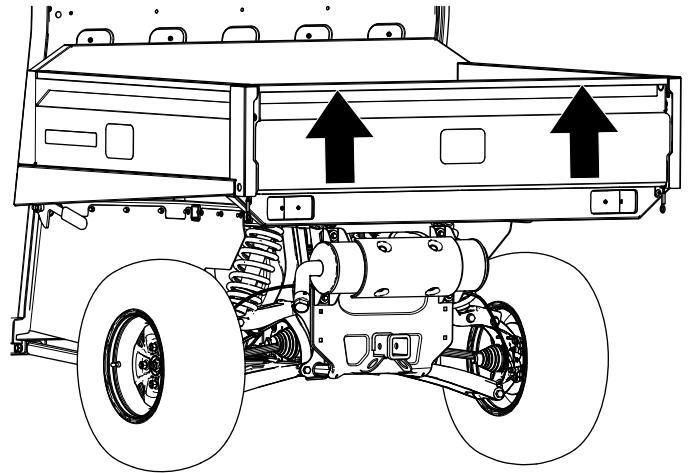

Figure 68
2. Using both hands, raise the tailgate using the ridge near the top of the tailgate (Figure 68).